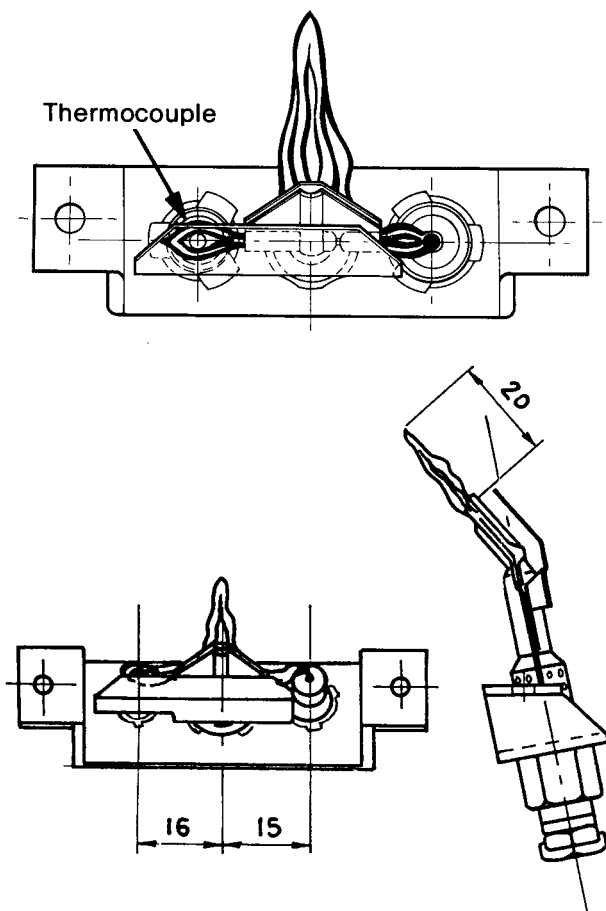
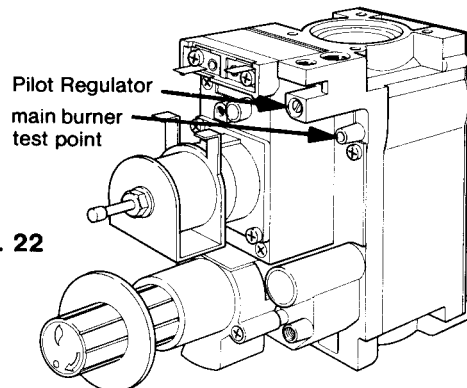

Fig 21 Pilot Flame Configuration
Fig. 22
- 6.5.5** The pilot flame should remain alight and envelope the thermocouple. (see fig 21) If it goes out, wait 3 minutes and repeat from 6.5.4.
- 6.5.7** Refer to fig 21 and check that the pilot flame is correct. If it is necessary to adjust the flame, first switch off electricity and refer to 5.7.2 for access instructions. Fig 22 shows the location of the adjustment screw. Turning clockwise decreases the flame and vice versa.
- 6.7.4** Locate the main burner pressure test point (fig 22) and slacken the screw half a turn in an anti clockwise direction. Attach a suitable pressure gauge. Turn on the main electricity supply, turn on a domestic hot water tap to operate boiler in dhw mode.